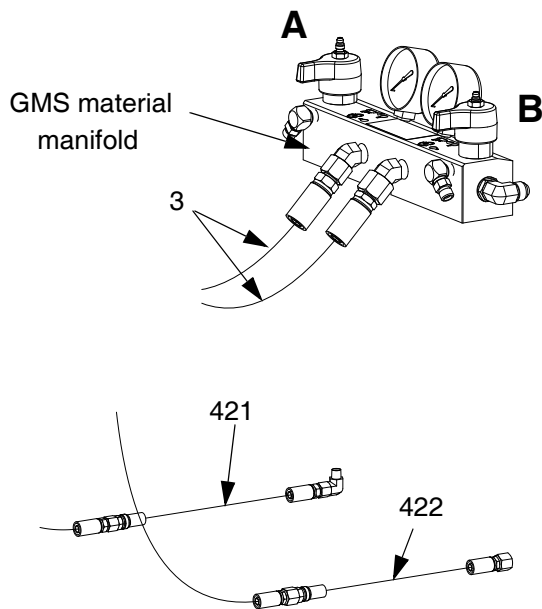
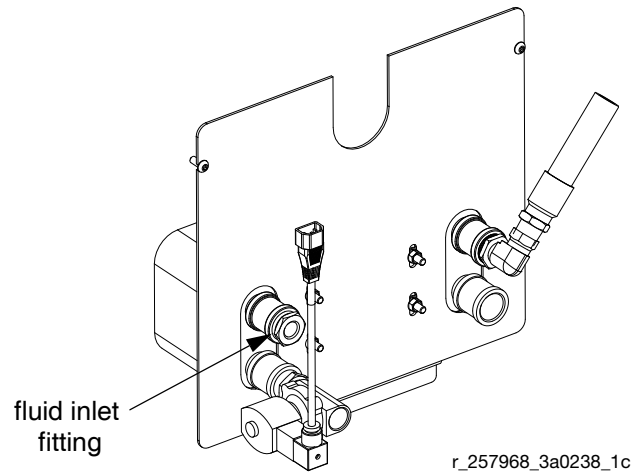

FIG. 11
FIG. 12: Tank Stand Connections
1. Connect the A (red) and B (blue) supply hoses, from hose kit (3), to the GMS material manifold. See FIG. 11.
3. Connect the other end of the A (red) circulation hose (421) to the fluid inlet fitting on the A (red) tank stand. See FIG. 11 and FIG. 12.
4. Connect the other end of the B (blue) circulation hose (422) to the fluid inlet fitting on the B (blue) tank stand.